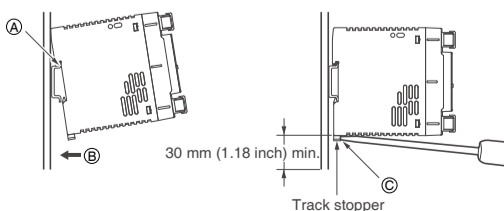

Fig. 2
- DIN Track Mounting** (Fig.2)